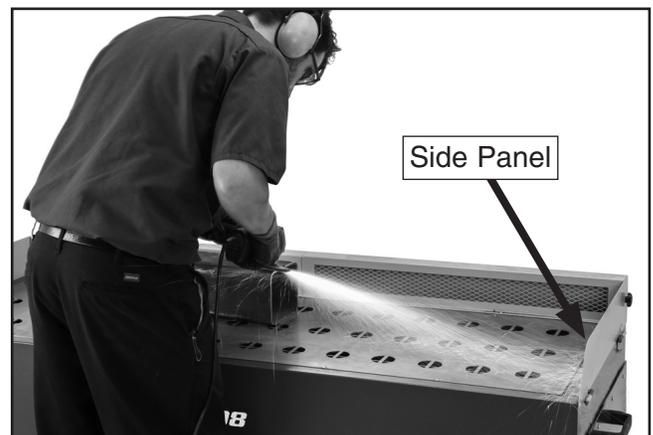

Figure 11. Typical grinding operation.
3. Turn downdraft table **ON** and perform operation (see **Figure 11**).